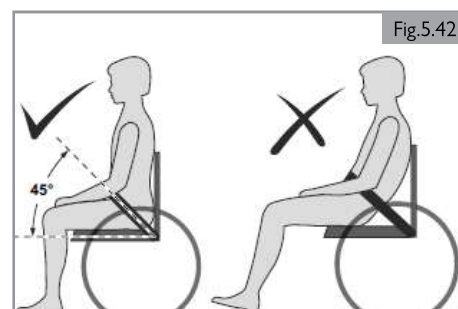

Fig.5.42
3. Generally, the lap belt should be fixed so that the belt sits at an angle of approximately 45° (Fig. 5.42), and when correctly adjusted should not allow user to slip down in the seat.